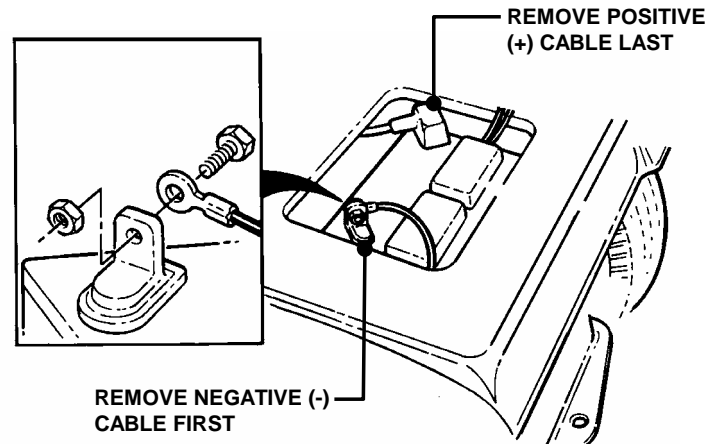

FIGURE 4.37
6. Remove battery. See Figure 4.37.